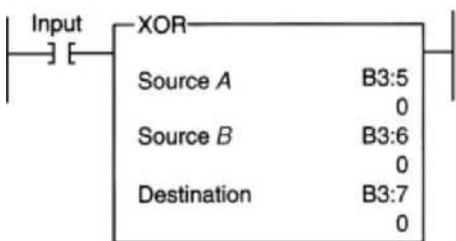

Figure 4-30 Logical XOR program for assignment 13.
13) Enter the logical XOR program shown in Figure 4-30 into the PLC. Use the data monitor function to store the following data: